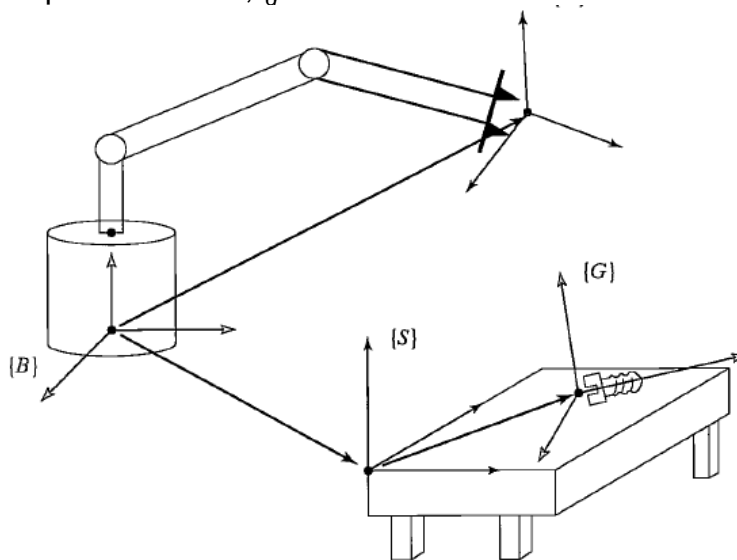

Figure Q.1A.
- 1A Assume that we know the transform ${}^A_B T$ in Figure Q.1A below, which describes the frame at the manipulator's fingertips {T} relative to the base of the manipulator, {B}, where the tabletop is located in space relative to the manipulator's base (because we have a description of the frame {S} that is attached to the table as shown, T), and that we know the location of the frame attached to the bolt lying on the table relative to the table frame—that is, Calculate the position and orientation of the bolt relative to the manipulator's hand, ${}^T_G T$. 03